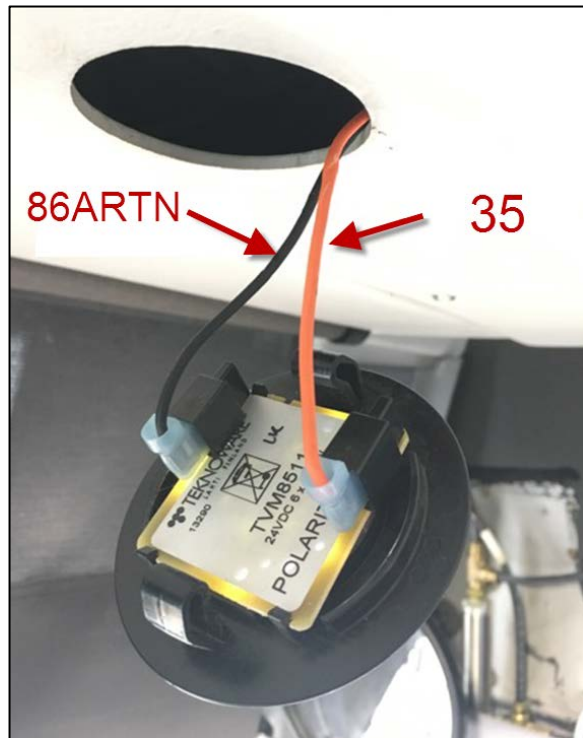

Figure 11
16. Locate wires 35 (orange) and 86ARTN (black) of the existing L17 light inside the front RH roof (Figure 11).